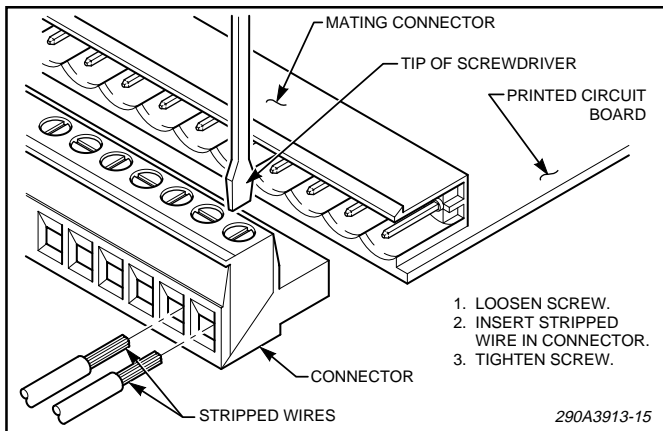
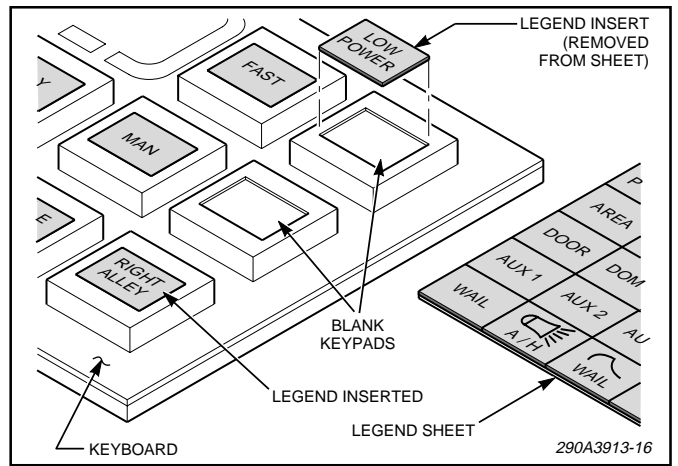

Figure 3-12. SignalMaster Eleven-position Connector.
Figure 3-13. Function Label Installation.
d. Strip 1/4" of insulation off each wire at the eleven-position connector end. Insert the eight 22-gauge wires, the 16-gauge red wire, and the 14-gauge red and black wires into the connector as shown in figure 3-13 and figure 3-12. Tighten the screw at each connector position to secure the wires in the connector.
See figure 3-13. Replaceable function labels identify the switches on the control head. A sheet of applicable function legends is supplied.
Select the appropriate labels from the supplied sheet of function legends. Peel the labels from the sheet and apply to the key pad in the area provided as shown in figure 3-13. Verify that the label is properly tucked under the retaining ridge on the pushbutton.